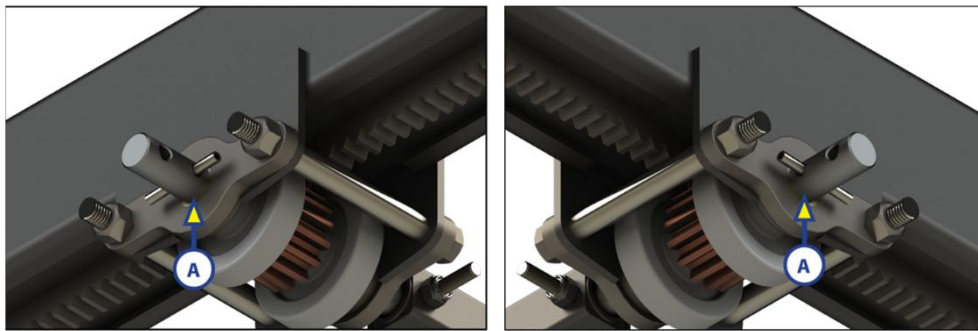
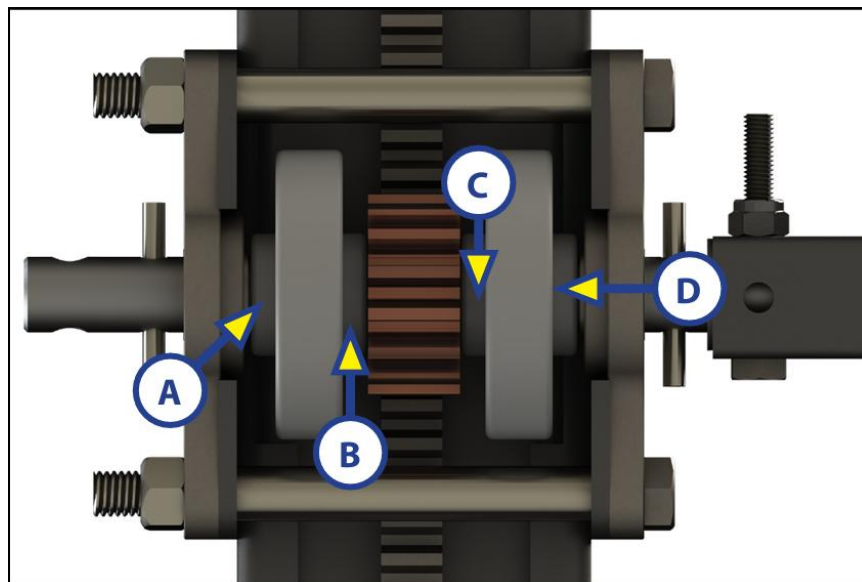

Figure 43. Gear Pack lubrication points - exterior.
Figure 44. Gear Pack lubrication points - interior.
2. Apply dry silicone onto gear pack drive shaft at lubrication points A through D in Figure 43 and Figure 44.